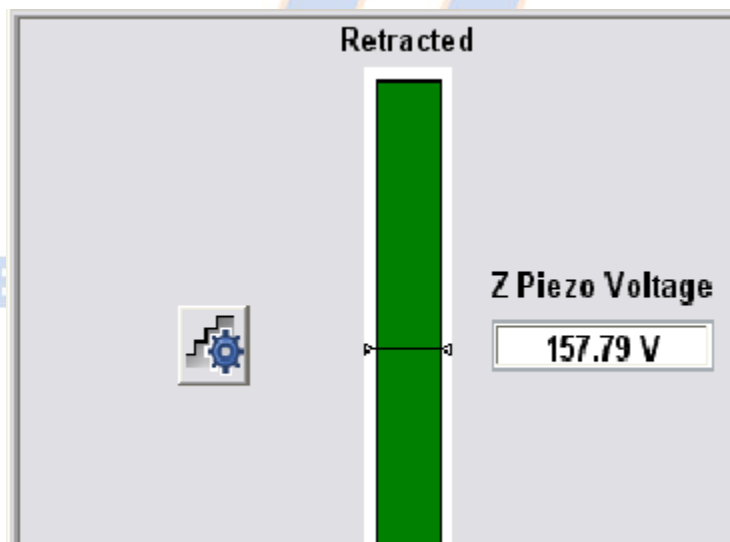

Figure 13. Z-piezo monitoring gauge (Extended/Retracted).
- c) Click "Acquire", then "Scan-Single" to bring up the piezo monitor (Figure 13). Keep this in view at all times while imaging.
- f) Once the probe has successfully engaged the surface, the system will beep. The piezo monitor (shown below in Figure 13) should be **GREEN**. It may instead turn **RED**, indicating that the Z-piezo is fully extended or retracted and the maximum voltage is being applied to it. This is indicative of a false engage (particularly likely with an Engage Setpoint of 1.10), and can be corrected by either decreasing the Amplitude Setpoint or retuning the cantilever at the surface as described next.